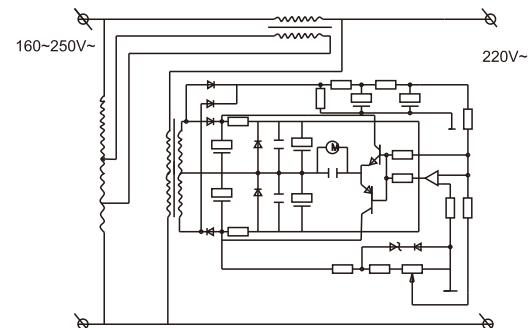

Figure 3
- See Figure 3 for electrical schematic diagram above SVC-5kVA;